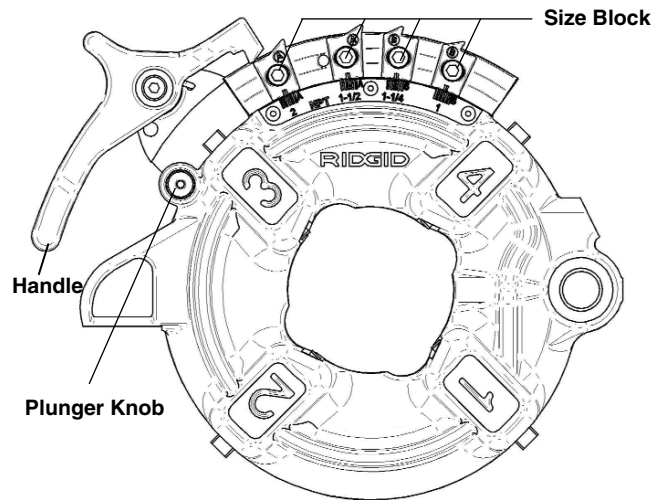

Figure 10 – 816/817 Semi-Automatic Die Head
NOTE! For 1/2" - 1 1/2" pipe, die heads will open automatically when proper length of thread has been cut. For 1/4" - 3/8" pipe, die heads must be opened manually. With die head trigger placed up and out of the way, thread length can be controlled by manually releasing throw-out lever. This is necessary for making long BSPP and NPSM threads. Semi-automatic die head (Figure 10) – When the end of the pipe being threaded is flush with the end of the number 1 die, hit the handle for the dies to release the pipe.
The 816/817 Semi-Automatic Die Head (Figure 10) for right hand threads requires four sets of dies to thread pipe ranging from 1/8" through 1 1/2". One set of dies is required for each of the following pipe size ranges: (1/8", 1/4" and 3/8"), (1/2" and 3/4") and (1" through 1 1/2"). Bolt threading requires a separate set of dies for each bolt size.
1. Depress handle so that cam plate rests (Figure 10 – Model 816/817 Semi-Automatic Die Head) against the stop (as shown).